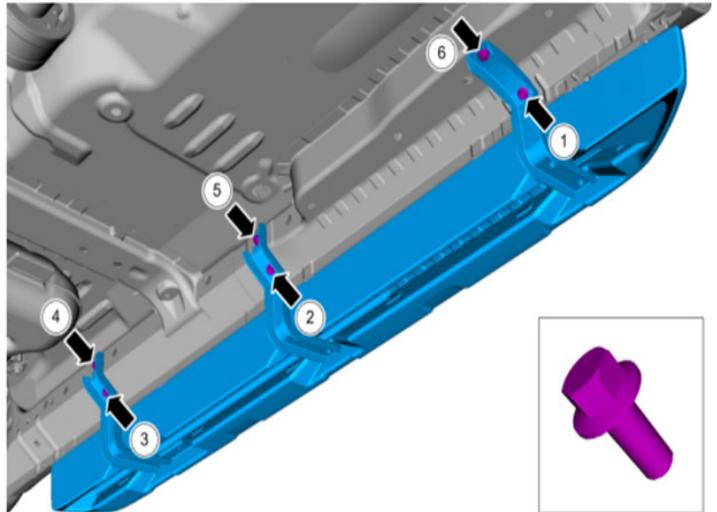

Figure 1
**2. Using a 13mm socket wrench, remove the six (6) OEM bolts securing the driver side OEM running board to the vehicle. (Figure 1)**
**\*\*Note if your vehicle doesn't have OEM running boards, use a plastic panel pry tool to remove the plastic nut covers from the same six (6) bolt hole locations as shown in figure 1.**